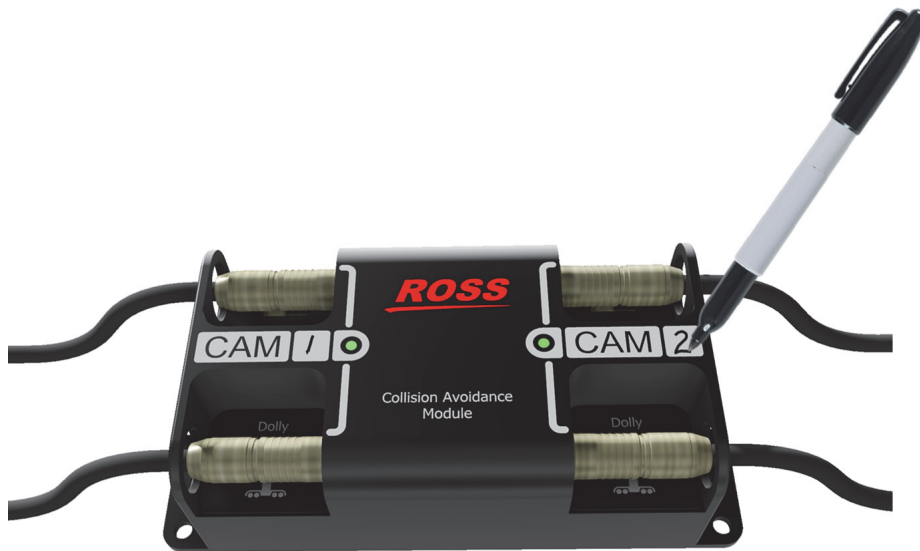

Figure 3.16 Labeling the collision avoidance module
9. If you intend to refer to the dollies as something other than Dolly A and Dolly B, you can use a marker to label the white squares on the collision avoidance module (**Figure 3.16**). This is an optional step.